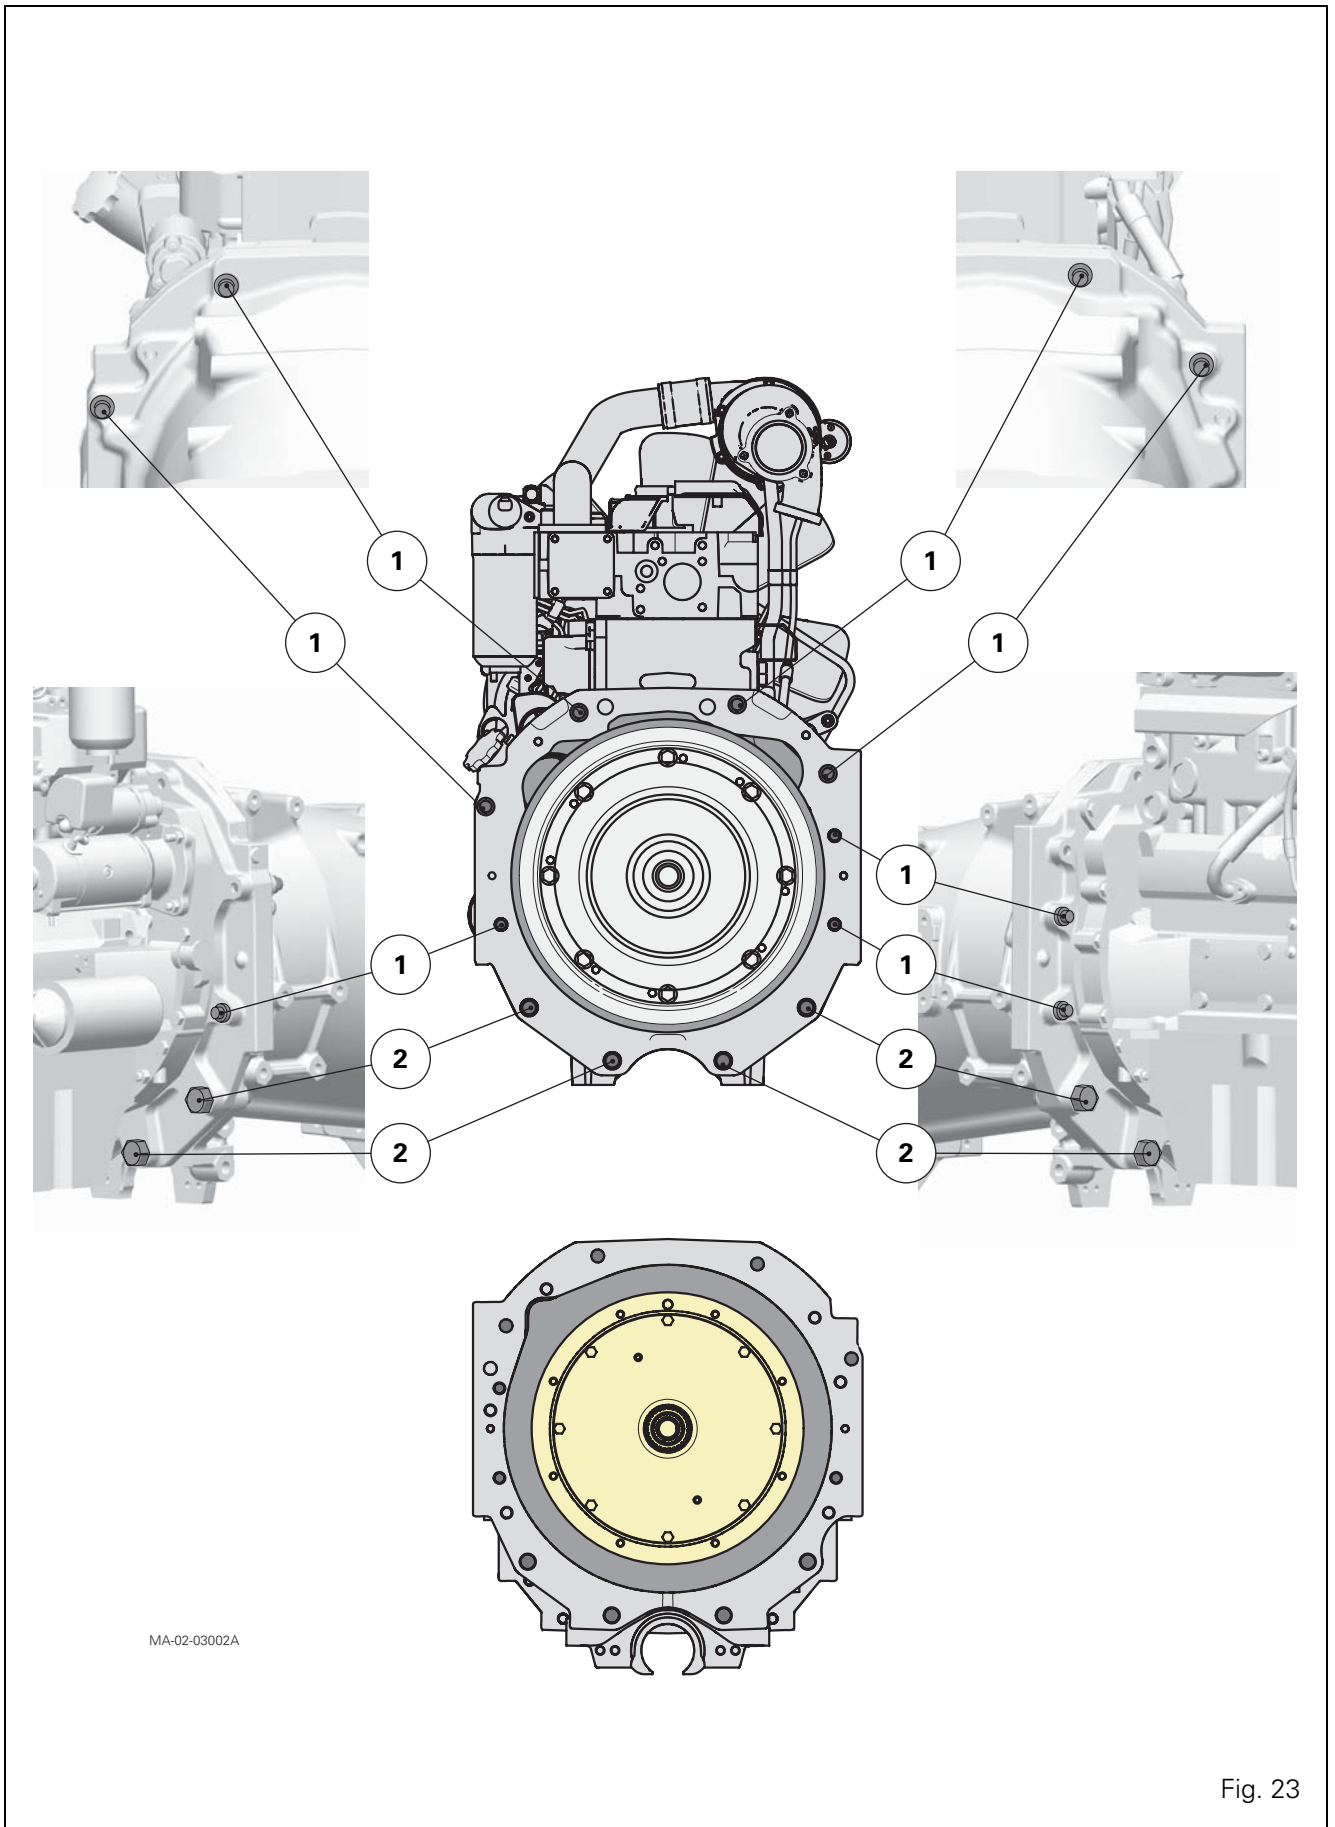

Fig. 23
51. Remove the screws attaching the engine to the gearbox (Fig. 23).